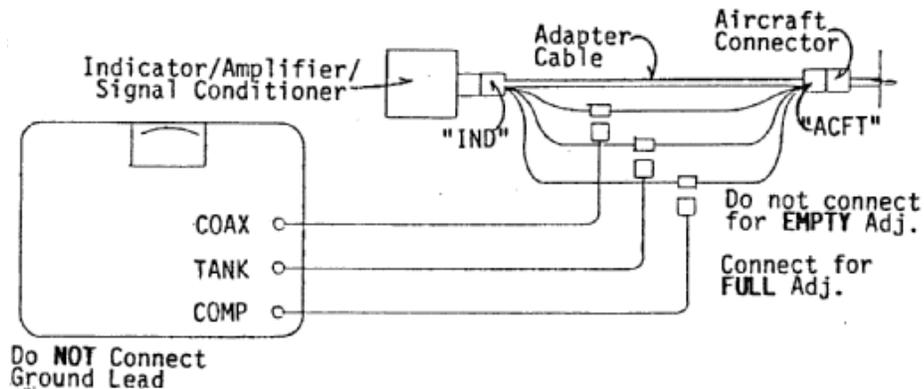

Figure 14 CAPACITANCE SIMULATION, CONFIGURATION #2
- With split leads from each end of the cable that is fitted with color-coded BNC connectors as shown in Figure 14. Connections are made with STRAIGHT or TEE BNC adapters as shown in this procedure.